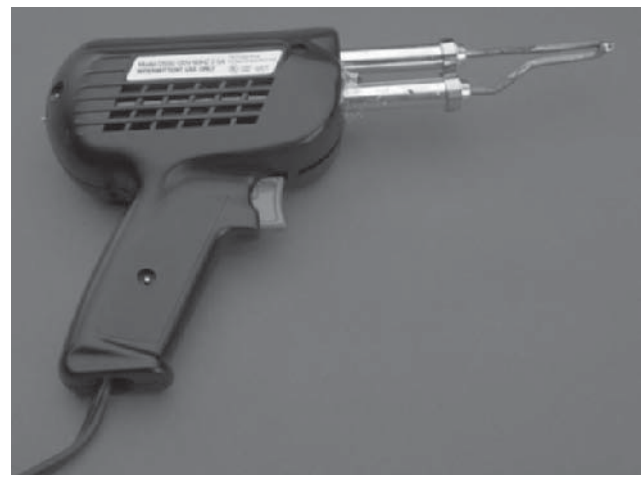

Figure 14-35 A typical soldering gun.
- Soldering gun (Figure 14-35)